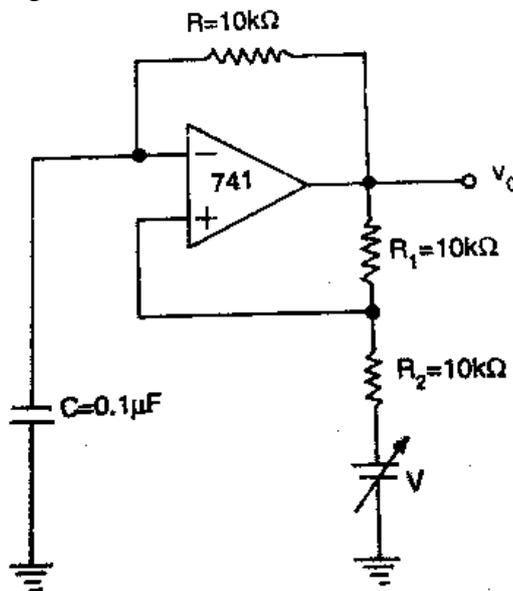

Fig. 3.33 Asymmetric Square Wave Generator
- An alternative method to get asymmetric square wave output is to add a d.c. voltage source V in series R_2 as shown in Fig.3.33.